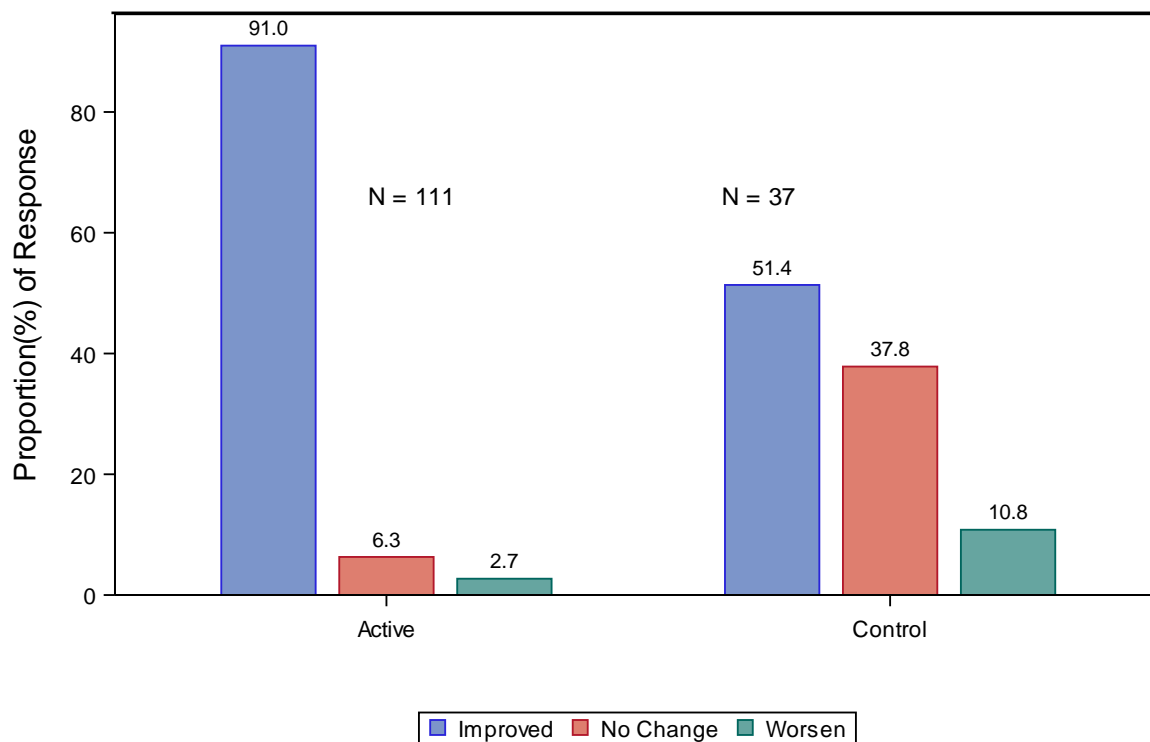

Figure 7: Difference between the Active and Control groups in the mean CGI-C, as assessed by the physician, at Week 12 post-randomization.
Physicians (blinded assessor) were asked to report their impression of change (1) in subjects' symptoms in a manner similar to what was done by subjects' themselves at Week 12 post-randomization. The responses are illustrated in Figure 7 below.